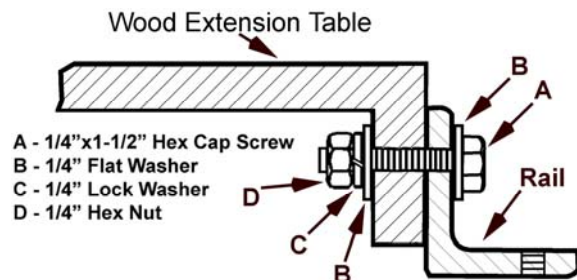

Figure 19
4. Install two 1/4-20 x 1-1/2 hex cap screws, four 1/4 flat washers, two 1/4" lock washers and two 1/4 hex nuts into the holes in the front edge of extension table as shown in Figure 19. Finger-tighten only. Then go to Step 6.
5. Install three 1/4-20 x 1-1/2 hex cap screws, six 1/4 flat washers, three 1/4" lock washers and three 1/4 hex nuts into the holes in the front edge of extension table as shown in Figure 19. Finger-tighten only.